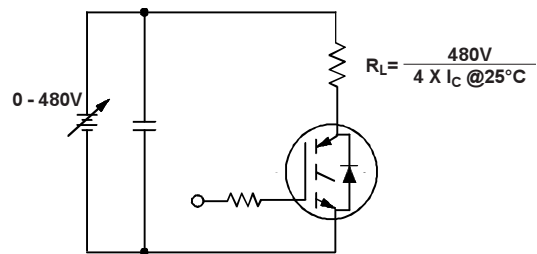

Figure 20.
- ① Repetitive rating:  $V_{GE}=20V$ ; pulse width limited by maximum junction temperature (figure 20)